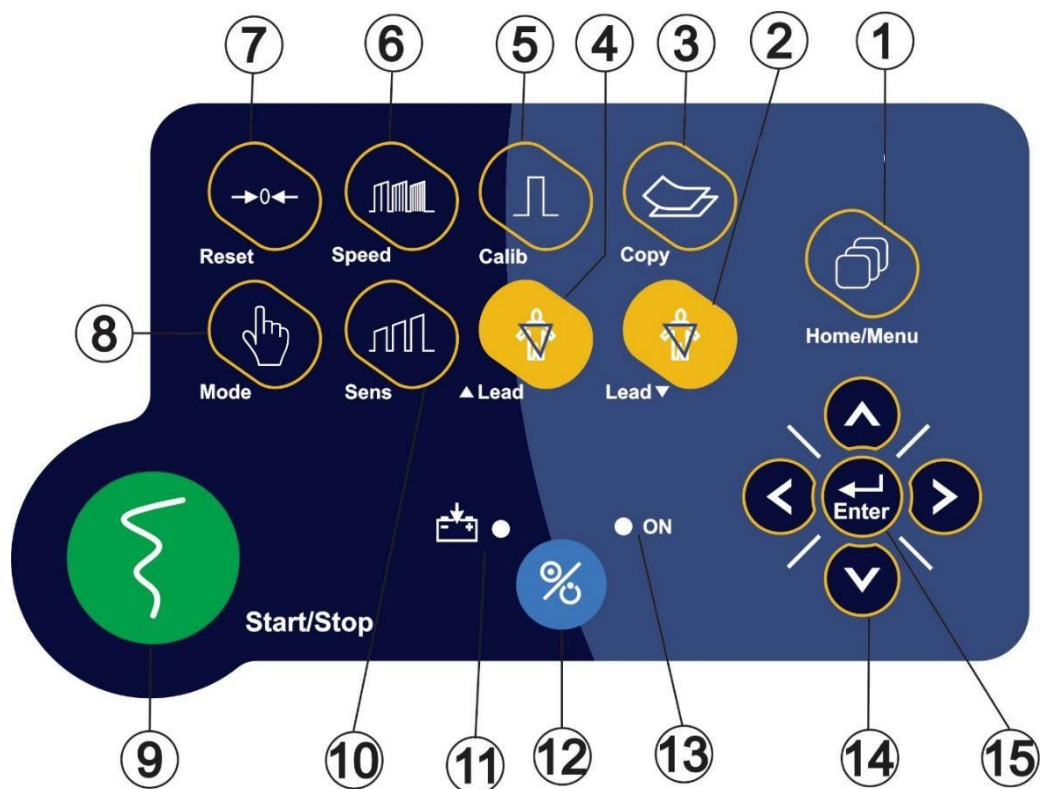

Figure 2-3 Control Panel
The POWER switch (On/Off) is located on the control panel ((12) in the figure 2-3). There are two indicators for power and battery on the control panel.
The green power indicator lights up when the device is powered on ((13) in the figure 2-3).
((11) in the figure 2-3).